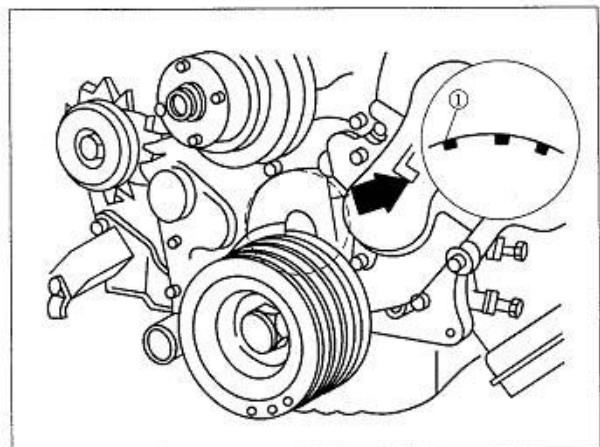
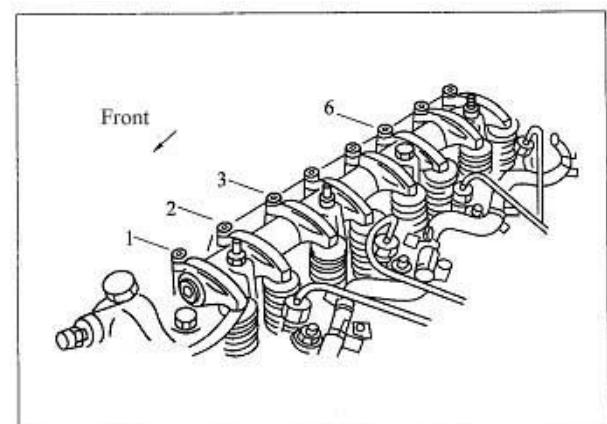

Figure 3-19 Turn Cankshaft to No.1 Piston at TDC of Compression Stroke
Figure 3-20 Adjust the 1st,2nd,3rd, and 6th Valve Clearances
(1) Turn the crankshaft, let the piston of cylinder No.1 reach TDC piston (see Figure 3-19), “TDC” mark on edge of pulley right towards the pointer on gear case cover, in this condition adjust the 1st, 2nd, 3rd, and 6th valve clearance (see Figure 3-20).